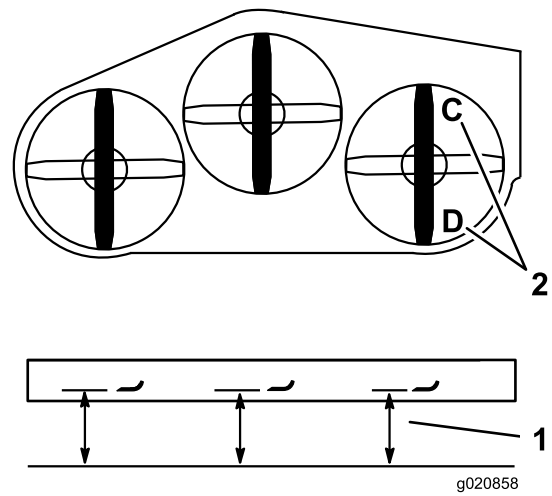

Figure 82
1. Position the right blade front-to-rear (Figure 82).
2. Measure the right blade at the **C** location, from a level surface to the cutting edge of the blade tip, and record this measurement (Figure 82).
3. Measure the right blade at the **D** location, from a level surface to the cutting edge of the blade tip, and record this measurement (Figure 82).
Note: The mower blade should be 6 to 10 mm (1/4 to 3/8 inch) lower at position **C** than at position **D** (Figure 82). If it is not correct, proceed to the following steps.
2. Position the right blade front-to-rear (Figure 82).